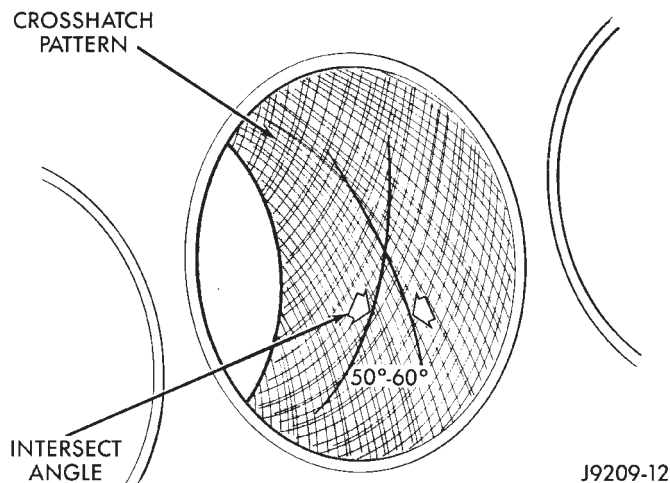

Fig. 1 Cylinder Bore Crosshatch Pattern
(3) Honing should be done by moving the hone up and down fast enough to get a crosshatch pattern. The hone marks should INTERSECT at 50° to 60° for proper seating of rings (Fig. 1).